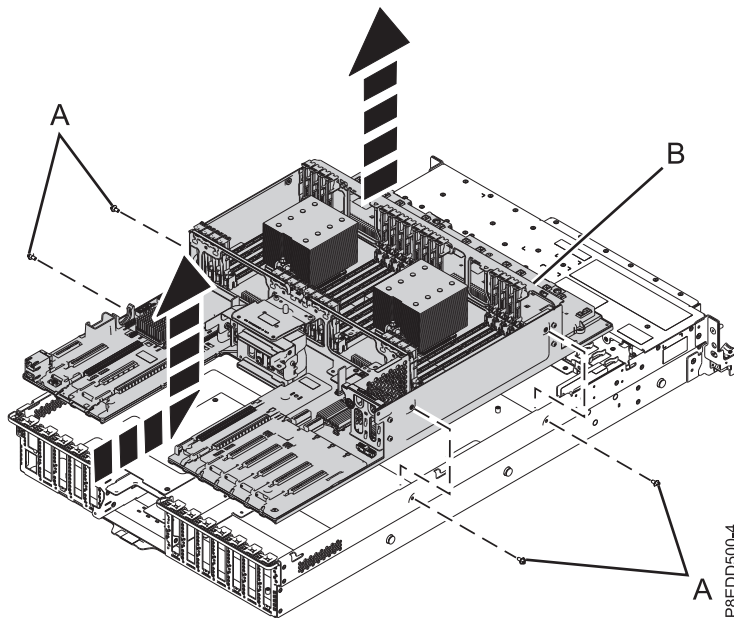

Figure 12. Removing the system backplane
- b. Using a Phillips screwdriver, unscrew and remove four screws (A) from the sides of the system chassis as shown in Figure 12 on page 15.
- c. Grasp the system backplane by the top guide rail (B). Slide it forward in the direction that is shown, then lift it up to remove it from the chassis. Place the system backplane on an ESD surface. See Figure 12 on page 15.